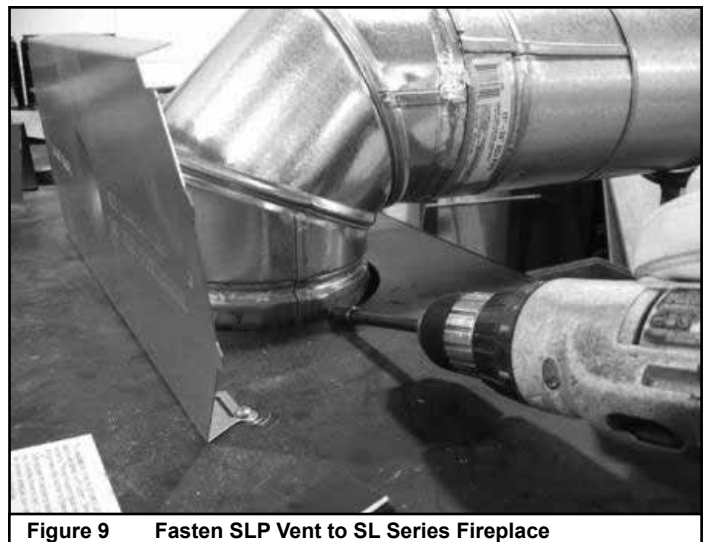

Figure 9 Fasten SLP Vent to SL Series Fireplace
- SL Series Fireplaces: Insert one 1/2 in. screw through the dimple on the heat shield into the first vent section. See Figure 9.